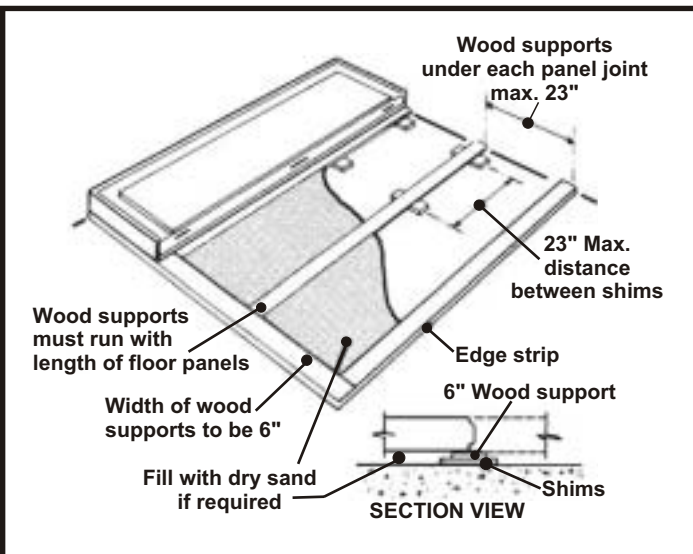

Fig. 9
- B. If the walk-in floor must bear heavy loads, the entire underside of each floor panel must be supported. If this is necessary, refer to fig. 9, which shows an optional method for leveling the floor and providing a sand-filled base.